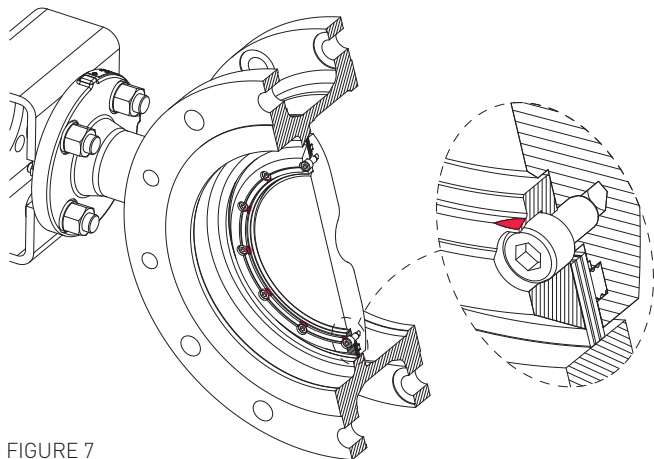

FIGURE 7
18. If the seal retainer flange screws were secured by bevels (on the retainer flange near each screw holes), use peening tool to re-bend the bevels over each screw and ensure correct and safe screw locking (refer to figure 7).